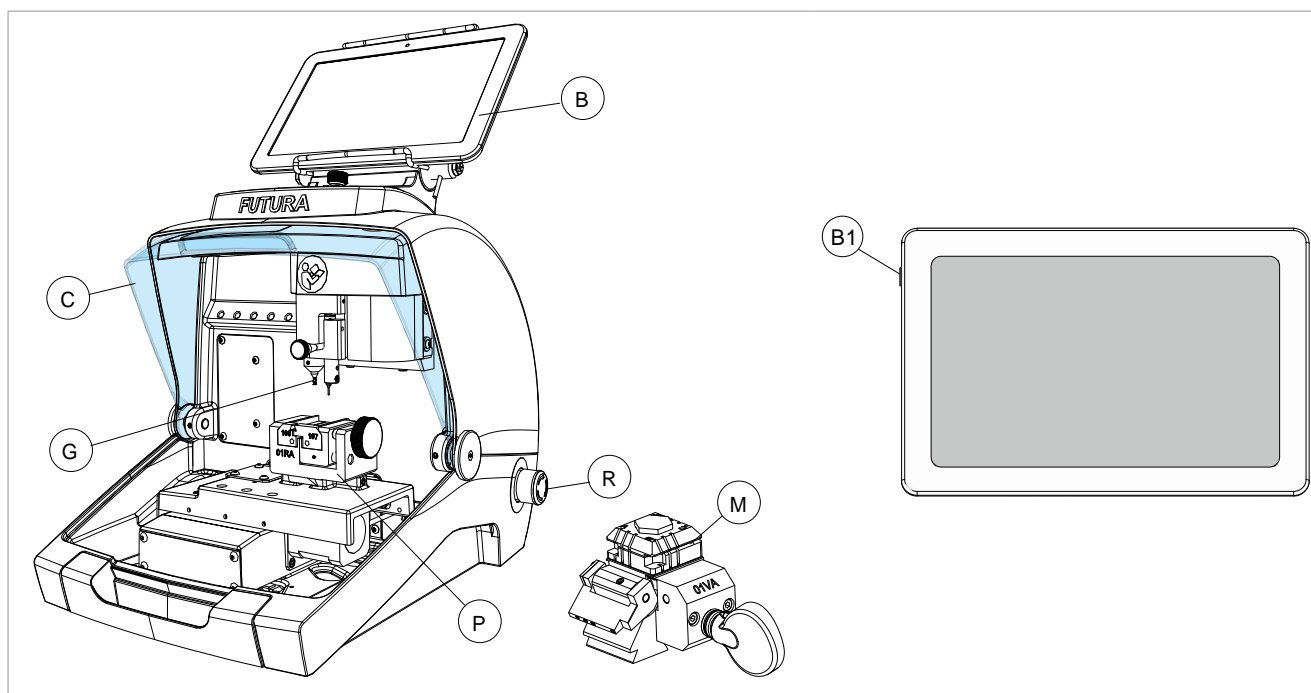

Fig. 23
- 2) Turn on the tablet by holding down the push button (B1) (Fig. 23) holding it down for a few seconds.